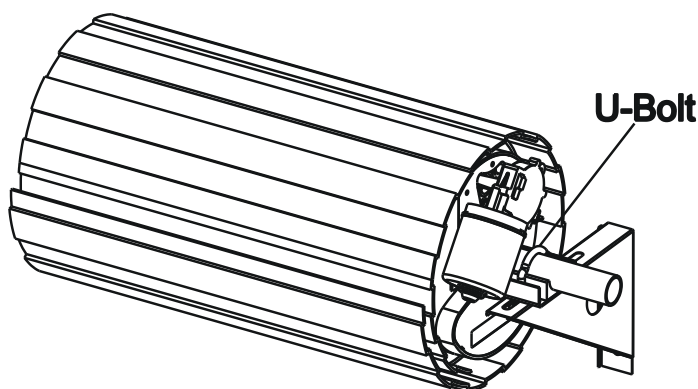

Fig 10
- 2.10 Refit the garage door mounting bracket to the wall. The U-Bolt slots in the door bracket must align with the U-bolt mounting slots in the Drive Unit. (Fig.10)